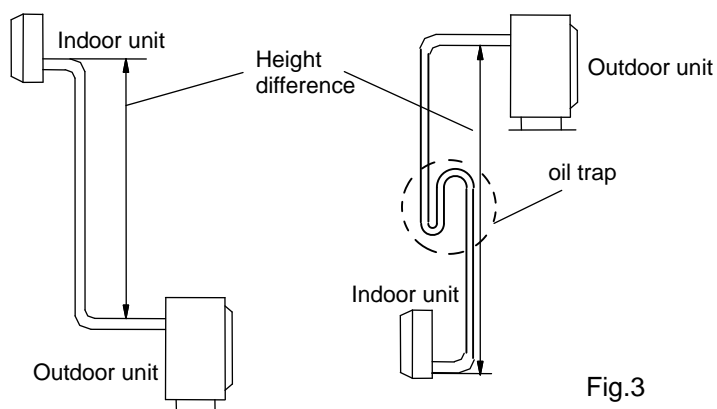

Fig.3
- If the installation position of the outdoor unit is higher than indoor unit and the tubing is longer than 10m, added a oil trap on the tubing for every 8m. (Fig.3)